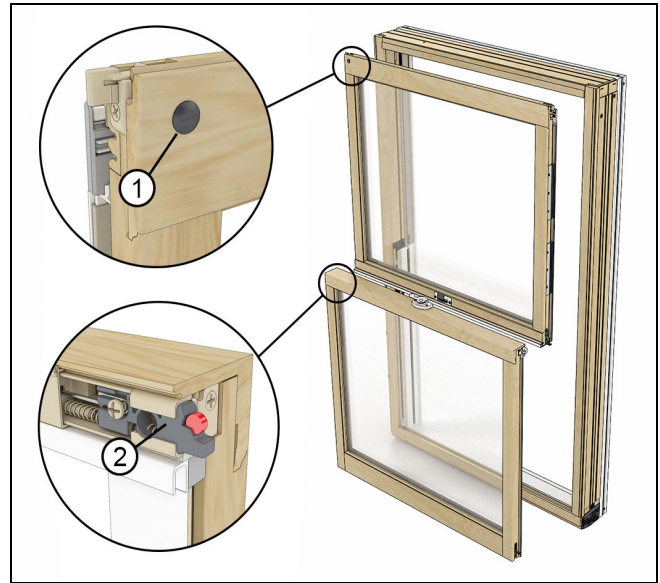

Figure 12
2. The sensors are activated by magnets located in the latch bolt of the bottom sash and another in the top rail of the top sash. See Figure 12.